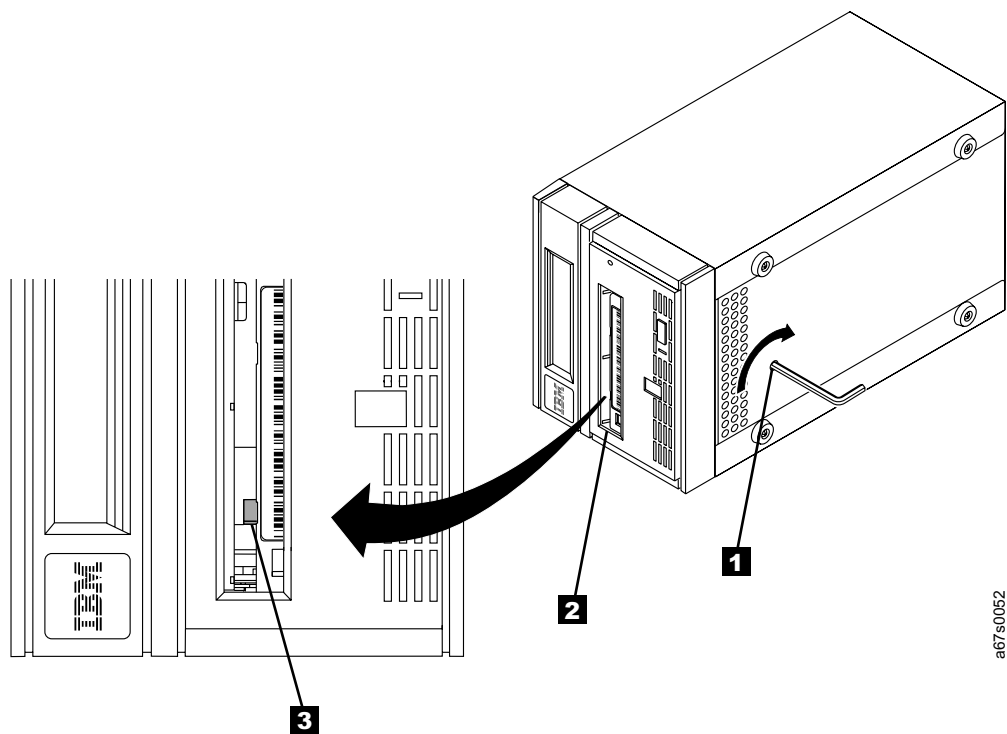

Figure 17. Determining Whether the Tape is Broken
4. Insert a 2.5-mm allen wrench (**1** in Figure 17) into the access hole and position the wrench so that it is seated in the access screw (not visible).